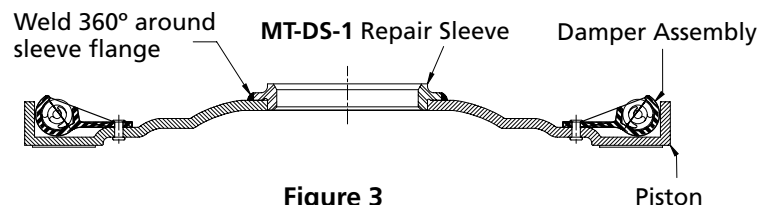

Figure 3
5. Place repair sleeve in the piston damper assembly, making sure the flange is pressed firmly against the machined surface, see *Figure 3*.
6. Weld 360° around the flange O.D.. A GTAW (TIG) weld is preferred to ensure a strong, flat and leak proof weld, see *Figure 3*.